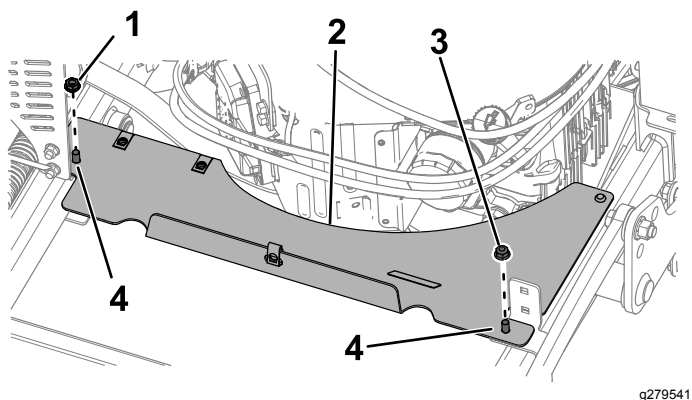

Figure 32
1. Bolt—5/16 x 1 inch (2)
4. Remove the hex nut (5/16 inch) nut (5/16 inch) securing the guard extension to the carriage bolts (Figure 32). Remove the guard extension.
1. Install the extension guard as shown in Figure 32. Torque the nuts to 20 to 25 N·m (15 to 18 ft-lb).